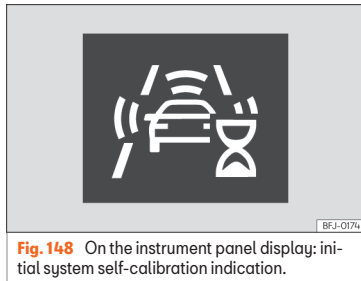

Fig. 148 On the instrument panel display: initial system self-calibration indication.
- In the first few instants of driving after switching on the ignition, due to the system's initial auto-calibration. During this period, a status icon » **Fig. 148** is displayed.